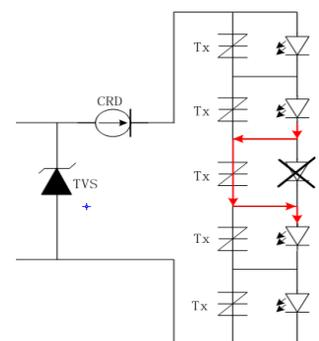

Figure 5: Protection of LED string
4. When multiple LEDs are connected in series as shown in Figure 5, open-circuit malfunction of one LED can